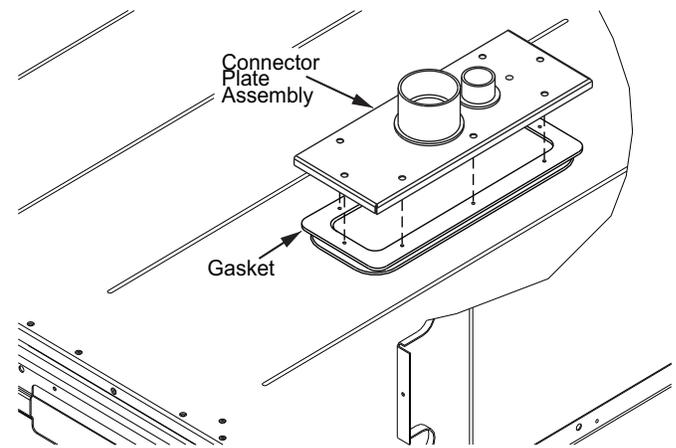

Fig. 53 – Installing Thru-the-Base Option
3. Place the gasket over the embossed area in the basepan, aligning the holes in the gasket to the holes in the basepan. (See Fig. 53.)